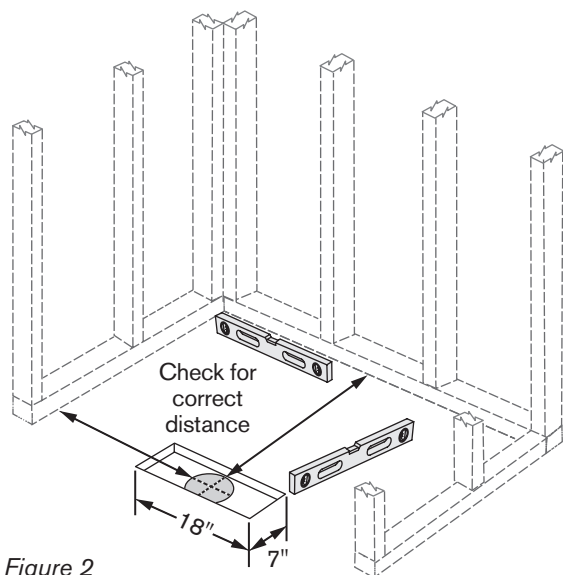

Figure 2
- 1 Check shower pocket area for level and for correct dimensions. Make sure drain hole in floor is the correct distance from studs and centered in the 7" x 18" x 3/4" deep and cut-out. The floor must be within 1/8" of level, especially around drain cut-out. (Figure 2)